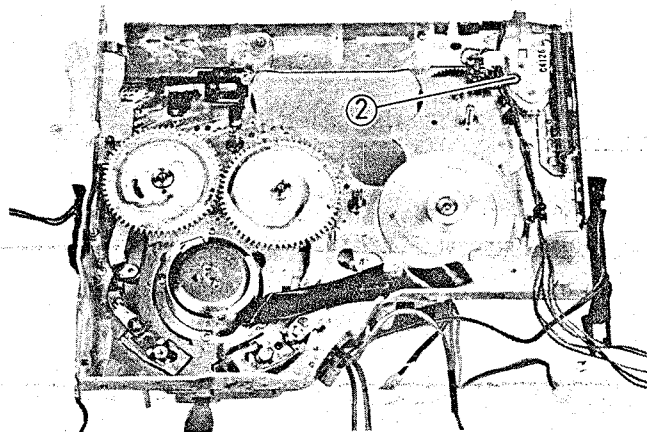

Fig. 2-117 Damper Removal
Damper Removal (Fig. 2-117)
2. Remove one (1) screw holding the damper. (See Fig. 2-117)
6. Remove the damper. (See Fig. 2-117)